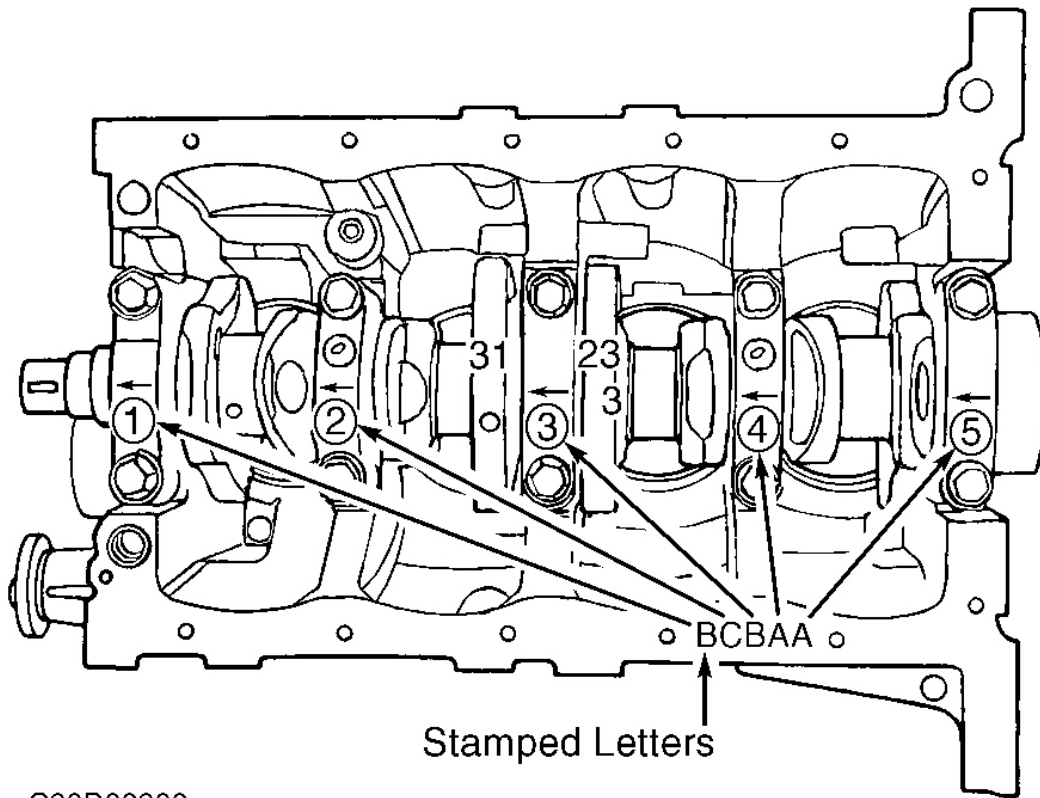

Fig. 19: Locating Letters Stamped On Cylinder Block
8. Determine bearing cap bore diameter with bearing removed. Bearing cap bore diameter is determined by letter ("A", "B" or "C") stamped on cylinder block mating surface. See **Fig. 19**. See appropriate BEARING CAP BORE DIAMETERS table.